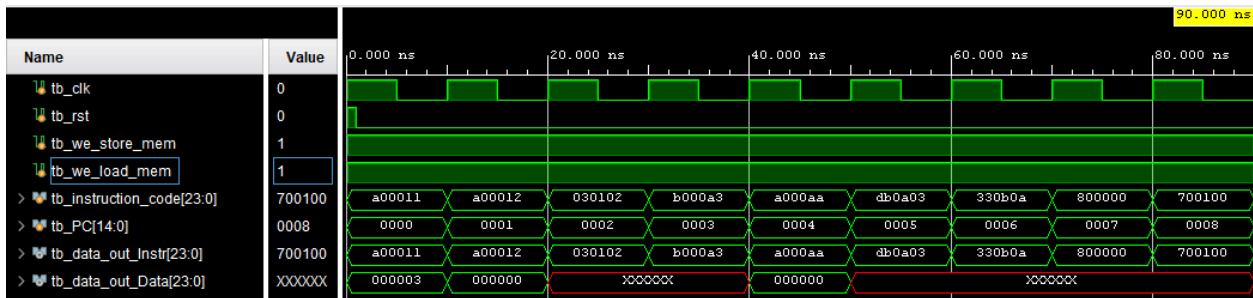

Figure 3: Memory Module Result Loading Instruction Opcodes from Instruction Memory and Block Data From Data Memory Block
The sixteen instructions programmed for the CPU design are listed in Table 1. The instructions are handled by the Instruction Decode (ID) module. Each instruction is assigned to a value from binary 0 through 15, followed by its destination and what inputs the instruction is pulling from. Fig. 3 shows the simulated pinout of the CPU design. The CPU is driven by its inputs listed as the reset signal, clock signal, instructions, and input data. The output ports are utilized to communicate with the peripherals.